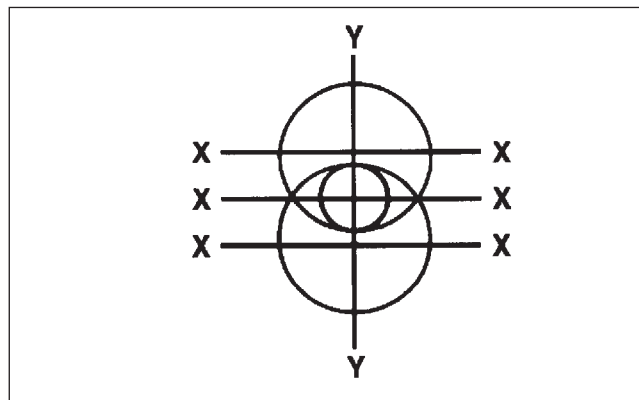

Figure 17
1. Measure across each journal in two (2) directions, X and Y, as shown in Figure 17. Measure each journal in this way at four (4) points along its axis. Always replace thermo-pellet valve assembly when overhauling your engine (1986-95 models).